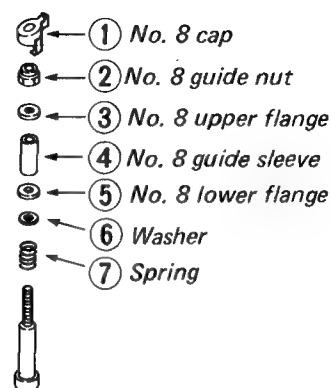

Fig. 1-3-20 No. 8 guide replacement
- 1) Remove No. 8 cap ① through the spring ⑦ in this sequence as shown in Fig. 1-3-20. When reassembling, perform the above steps in reverse order.